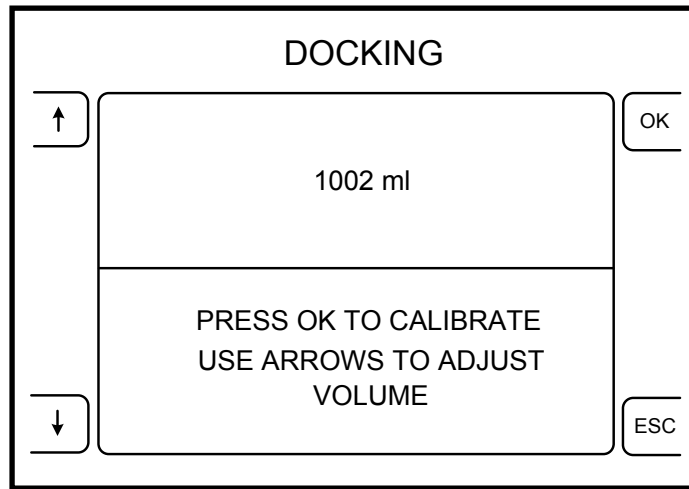

Figure 11: Entering Calibrated Fluid Amount (Adjusted to 1002 ml)
27. Using the buttons next to the arrow icons on the left, enter the recorded value from step 16 or 18 that was suctioned in to the canister (see figure 11).